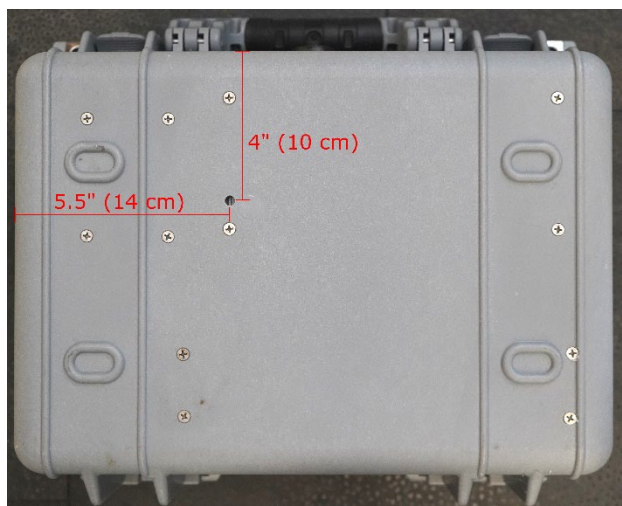

Figure 3-12. Drain Hole Location
- ❖ To prevent permanent damage from a leak, a drain hole can be added in the bottom of the system's Pelican case (Figure 3-12). On more recent versions of the STREAM™ system, this hole is added in the factory. When drilling a drain hole, be careful not to drill farther than the thickness of the Pelican case and puncture internal components.